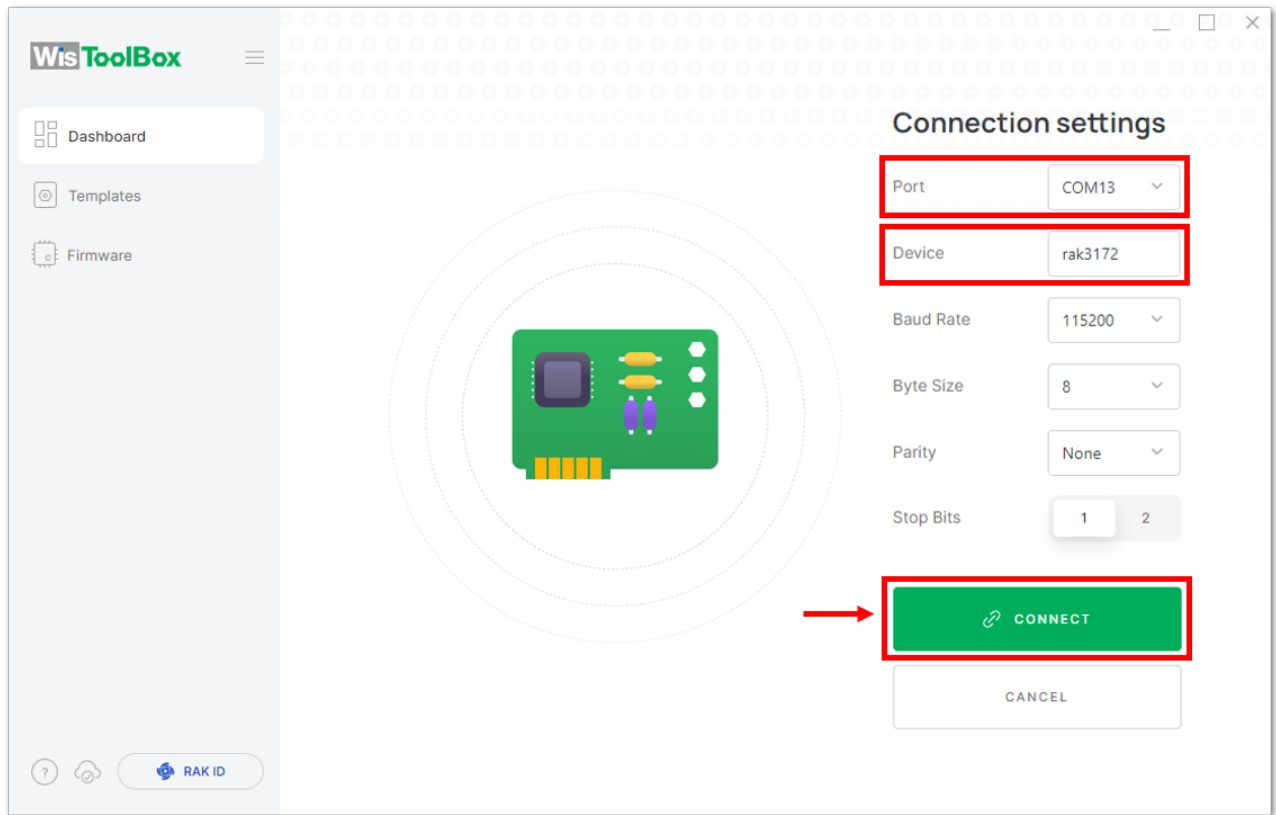

Figure 131: Setting up your device
3. Then select your target port where your **RAK3172** is connected. Once recognized, click **CONNECT** as shown in **Figure 131**.